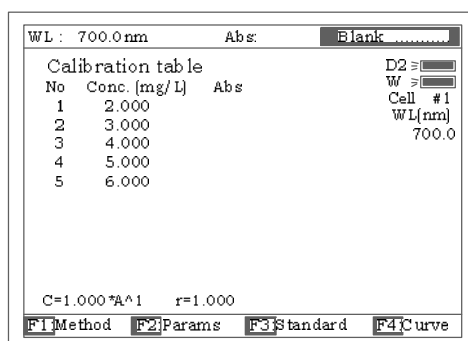

Fig 32
- 3.3.2 Push the blank cuvette into the reference light path and main light path, press **[0Abs/%100T]**, the instrument will step to the wavelength and blank. See Fig 32.